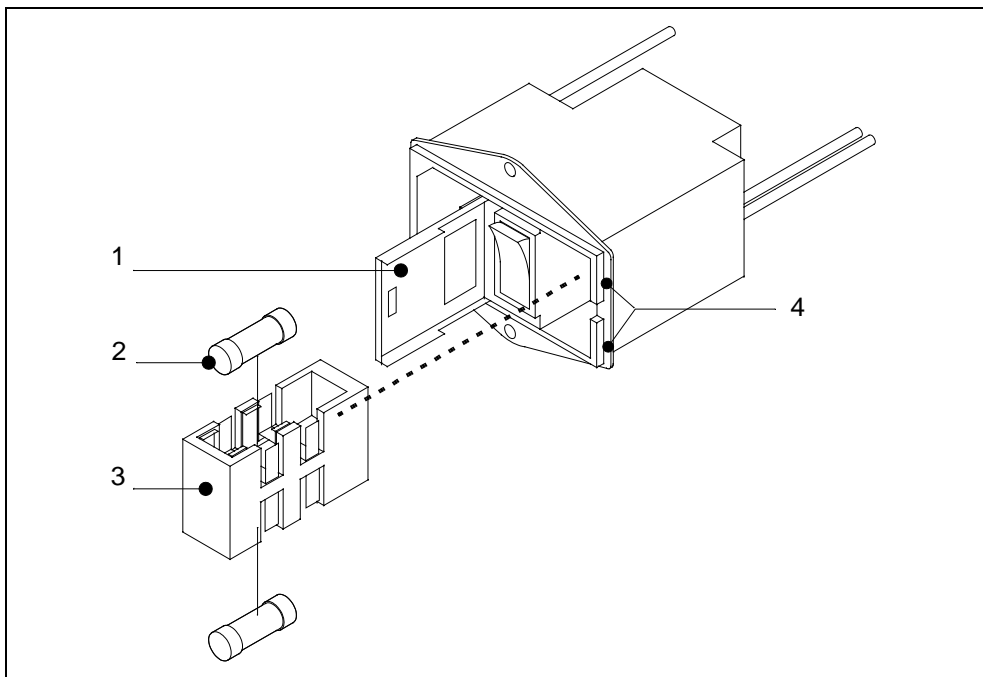

Fig. 7-5 Fuse replacement
- For replacing the main fuses, open the cover of the fuse insert using a screwdriver. For this, insert the screwdriver into the respective groove and open the cover. Refer to Fig. 7-5.